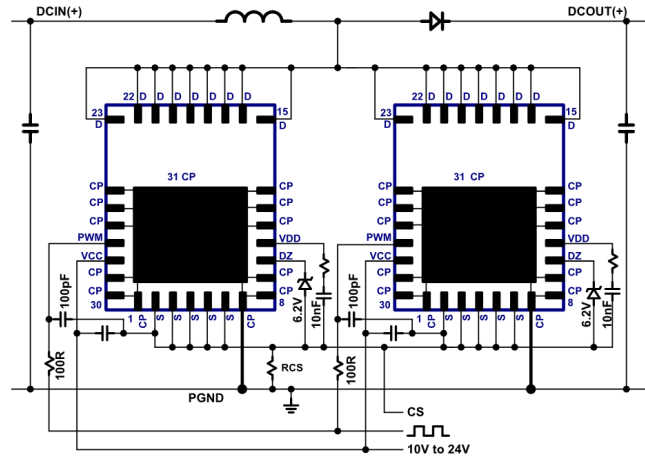

Fig. 25. Boost schematic using two parallel ICs
For some applications it is desirable to parallel ICs in order to reduce conduction losses and temperatures. Two NV6125 ICs can be connected in parallel in a PFC boost application working in boundary-conduction mode (BCM) only. The parallel configuration for two NV6125 ICs is shown in Fig. 25. The paired pins that are connected together include the drain pins (D), the source pins (S), the V_{CC} pins, the PWM pins, and the D_Z . A single D_Z diode can be shared by both ICs. The V_{DD} pins are not connected together and require separate V_{DD} supply capacitors (C_{VDD1} , C_{VDD2}) and separate turn-on current set resistors (R_{DD1} , R_{DD2}). Each IC should have its own local V_{CC} supply filter capacitor (C_{VCC1} , C_{VCC2}). The PWM pins can have a single filter resistor (R_{PWM}) but separate filter capacitors (C_{PWM1} , C_{PWM2}) should be placed at the PWM pin of each IC. When designing the PCB layout for the two paralleled ICs, the drain and source connections should be made as symmetrical as possible two avoid any parasitic inductance or capacitance mismatch.